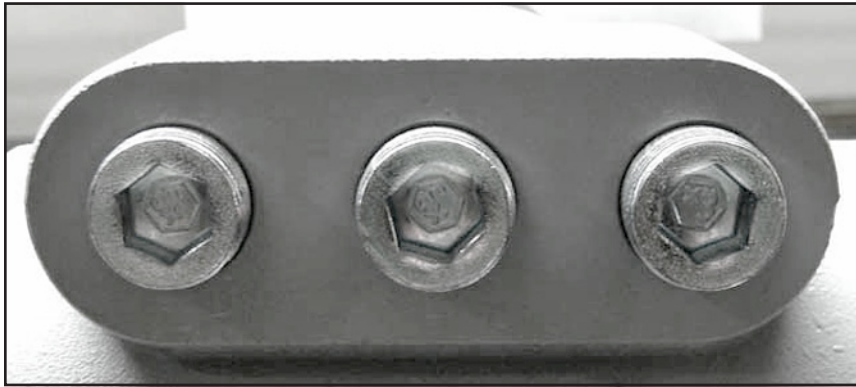
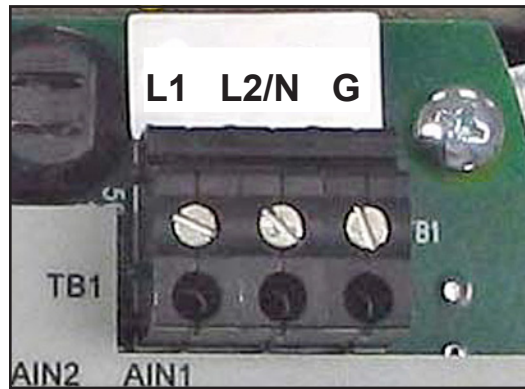
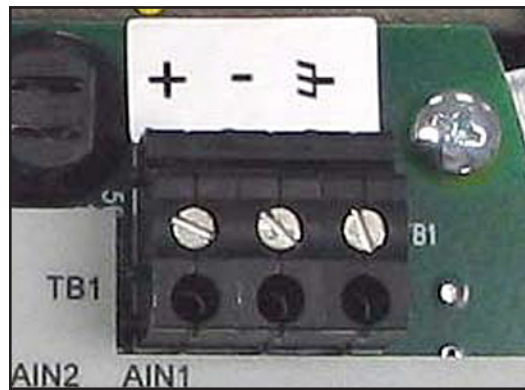

Figure 15: Conduit Inlet Ports
Figure 16: Wiring the AC Line Power
Figure 17: Wiring the DC Line Power
Note: *Use one conduit inlet for the power cable, and use the two remaining conduit inlets for any I/O cables as needed. All unused conduit inlets should be sealed with suitable blank plugs (see Figure 15 below).*
See Figure 16 or Figure 17 on page 17 to locate terminal block **TB1** and to connect the line power as follows:
2. Route the cable through one of three conduit inlet ports (see Figure 15 above) and connect the line power leads to terminal block **TB1**, using the pin number assignments shown in Figure 30 on page 28 and Figure 16 or Figure 17 on page 17.
3. Run the power connections to the *Power Terminal Block* shown in *Figure 16* (AC power) or *Figure 17* (DC power) above. The use of 12-18 AWG (3.3 - 0.82 mm²) wire is recommended for the power connections.
5. Route the cable through the chosen conduit hole and connect the line power leads to terminal block **TB1**, using the pin number assignments shown in *Figure 31* on page 29 and *Figure 16* or *Figure 17* above.